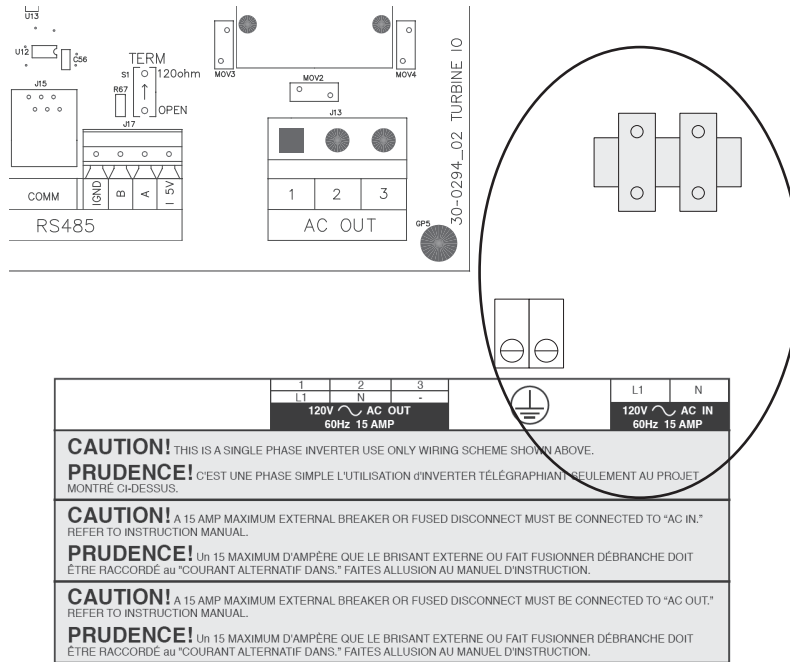

Figure 2.9 AC Input Current Wiring Diagram
8. Run AC wiring. Reference AC wiring diagrams on pages 17-18; Figure 2.9, 2.10, 2.11.